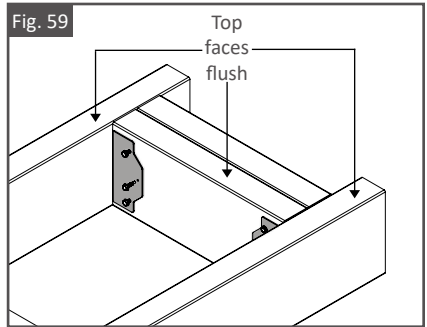

Fig. 60
15. Using Evolution self-drilling screws, fasten the two cut Joists together through the drill holes. As shown in Fig. 60 & 61. Use a bit extender when fastening the two cut Joists together. Be sure screws are positioned to avoid through bolts of railing posts.